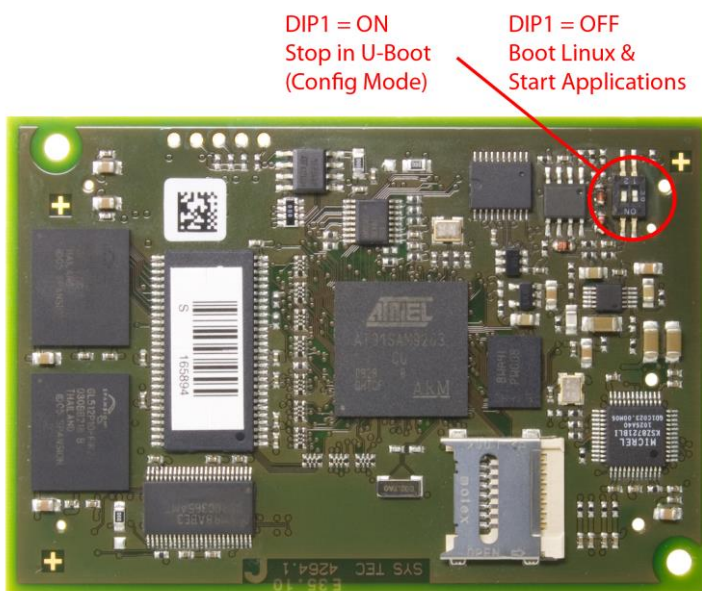

Figure 9: Positioning and meaning of DIP-Switch 1 on the PLCcore-9263
- (1) **DIP1 = "On" or /BOOT = "Low"** DIP1: see Figure 9, /BOOT: see Manual L-1261, Development Board: "/BOOT" = pushbutton S602
Figure 9 shows the positioning and meaning of DIP-Switch 1 on the PLCcore-9263. This DIP-Switch might be hard to access if the module is built in. Thus, the Portpin of the processor that is connected to the switch is available as connection "/BOOT" on the pin connector of the PLCcore-9263 (see Table 5).